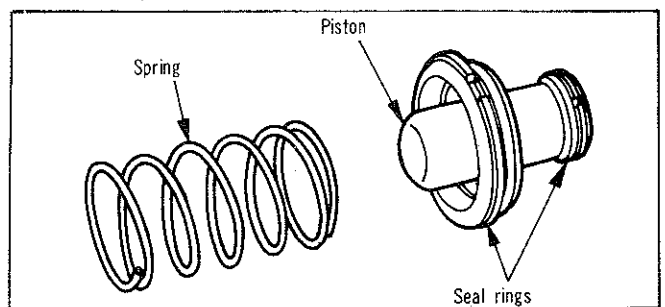

Fig. 67—Accumulator piston and spring
(1) Place valve body manual lever in low position to move parking rod to rear position.
(2) Use screw driver to push park sprag into engagement with parking gear, turning output shaft to verify engagement. This will allow "knob" on end of parking rod to move past the sprag as valve body is installed.
(3) Install accumulator piston in the transmission case (Fig. 67).